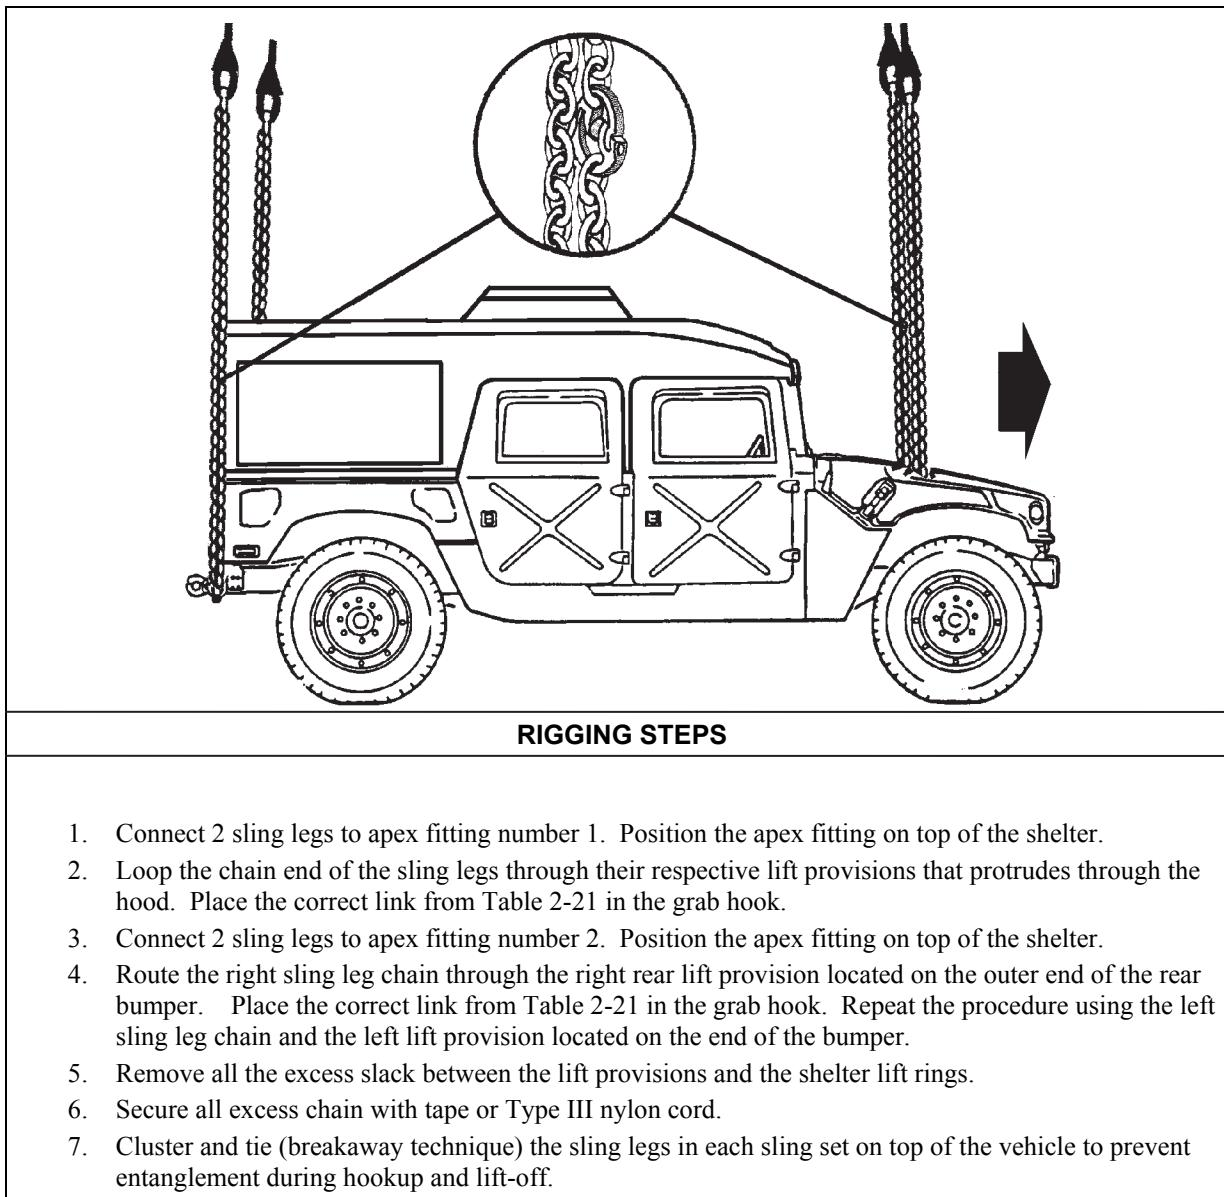

Figure 2-20. Prophet AN/MLQ-40(V) on M1097
- **Rigging.** Rig the load according to the steps in Figure 2-20.